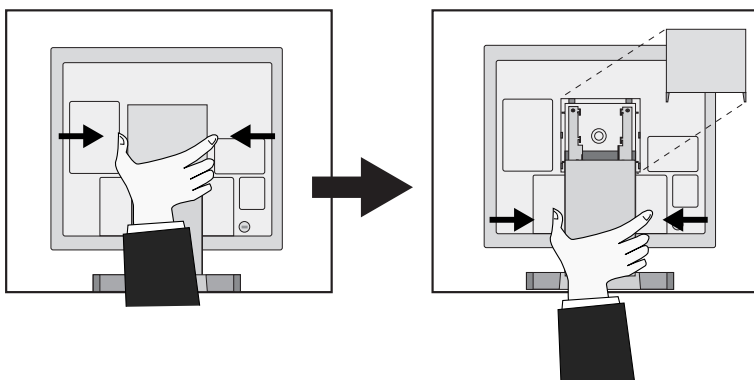

Figure G.2
3. To take off back cover, please follow the instructions of arrow while pressing two side of monitor. (**Figure G.2**)